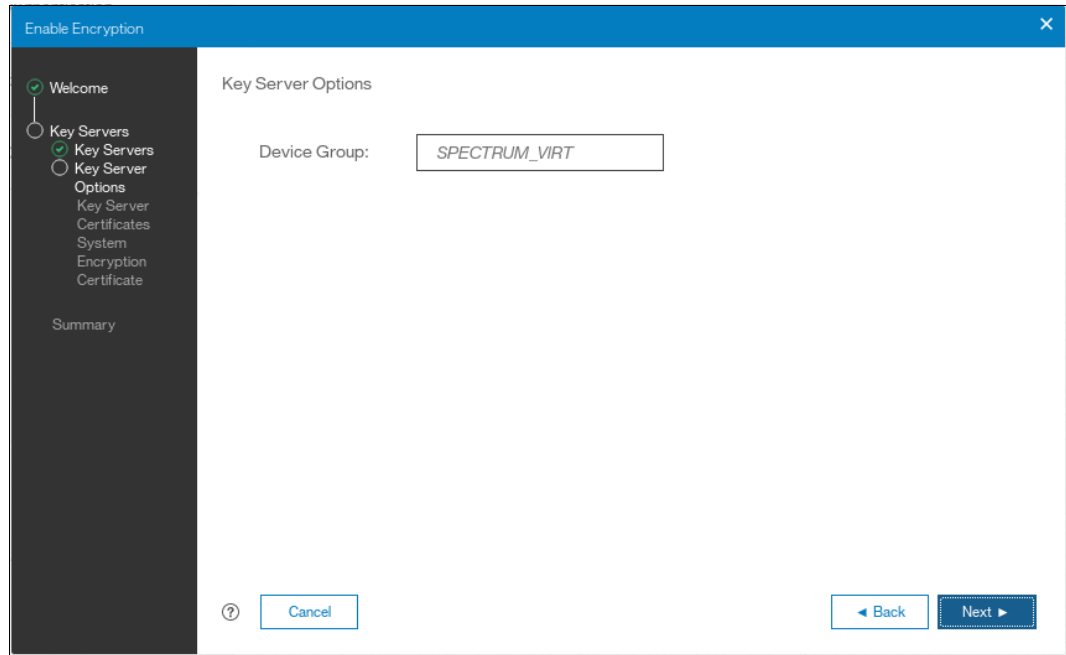

Figure 13-33 Checking key server device group
- The next page in the wizard is a reminder that SPECTRUM_VIRT device group dedicated for controller firmware systems must exist on the SKLM key servers. Make sure that this device group exists and click **Next** to continue, as shown in Figure 13-33 on page 729.